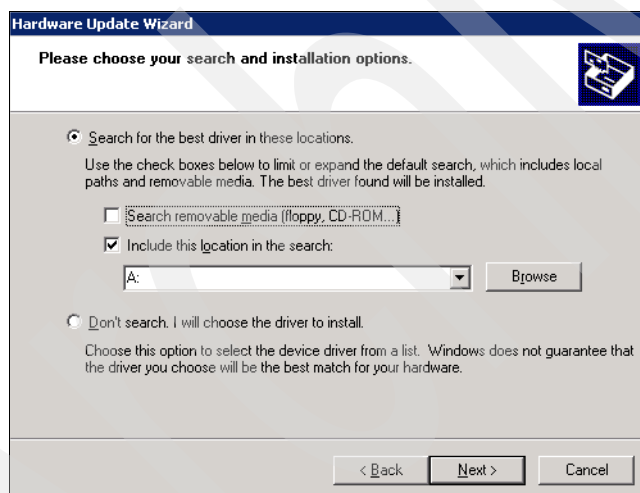
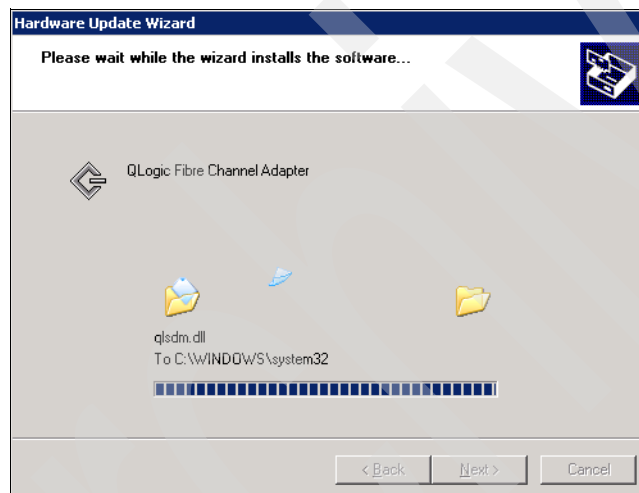

Figure 25-4 Include this location in the search
Figure 25-6 QLogic driver installation
5. In Figure 25-4, check only **Include this location in the search** and click **Browse**.
7. the window shown in Figure 25-4 on page 615 reappears. Click **Next** to install the HBA driver (Figure 25-6).